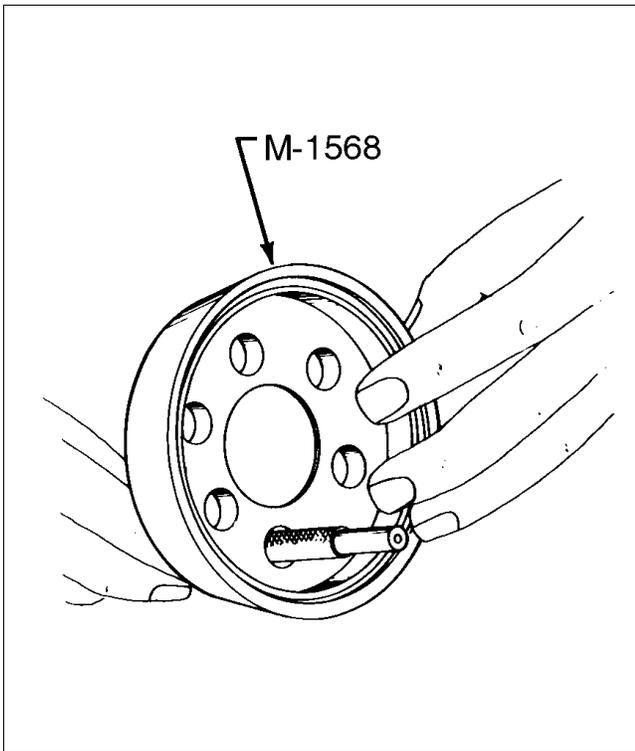

Figure 74-24. Installation in Harness Cap
11. For magneto end of wire, insert wire through hole in M-1568 harness cap so shielding is through hole as shown in Figure 74-24.